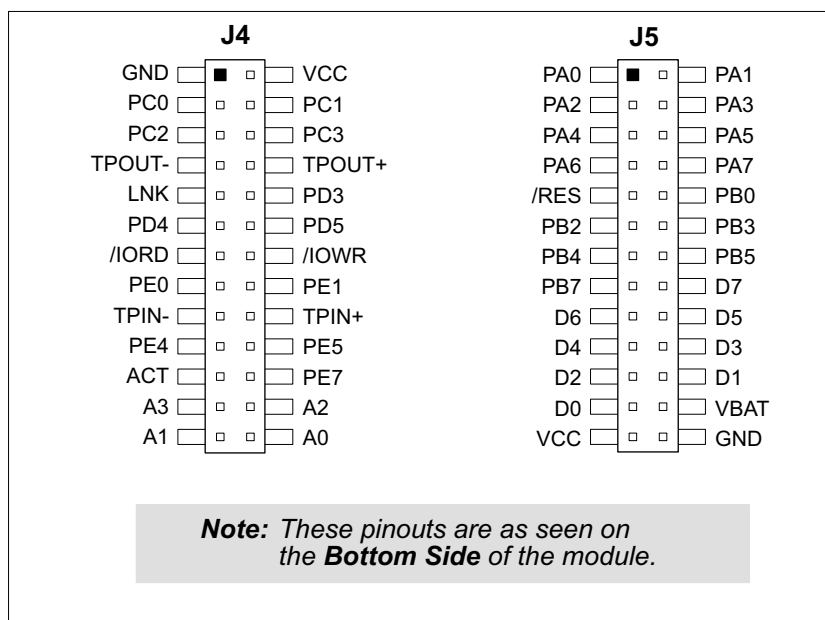

Figure 1. RCM2200 Connector Pinout
The RCM2200 modules have two 26-pin headers to which cables can be connected, or which can be plugged into matching sockets on a production device. The pinouts for these connectors are shown in Figure 1 below.
- **Module Extension Headers**—The complete pin sets of both the Master and Slave RabbitCore modules are duplicated at these two sets of headers. Developers can solder wires directly into the appropriate holes, or, for more flexible development, 26-pin header strips can be soldered into place. See Figure 1 for the header pinouts.